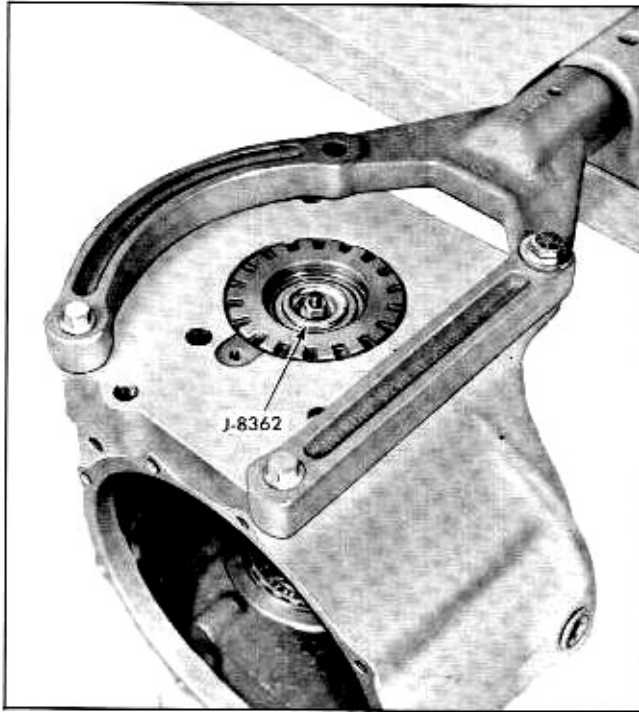
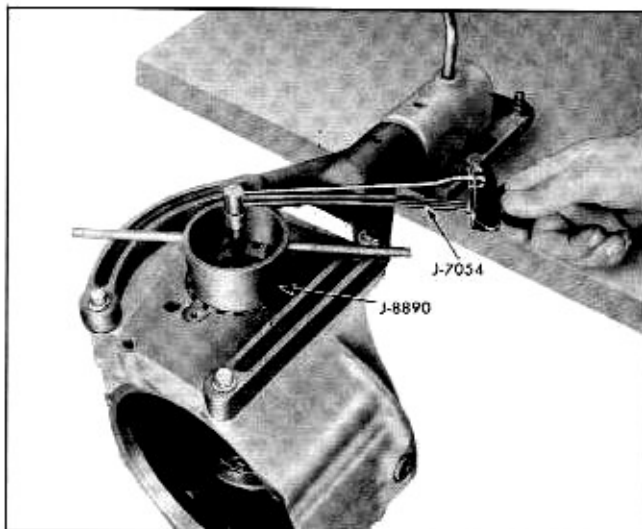

Fig. 4-54 J-8362 Installed in Pinion Shaft
Fig. 4-55 Adjusting Pinion Bearing Preload
18. Install J-8362 inside pinion shaft and tighten nut (Fig. 4-54). Adjust pinion bearing preload to 10-16 lb. in. of torque (Fig. 4-55).